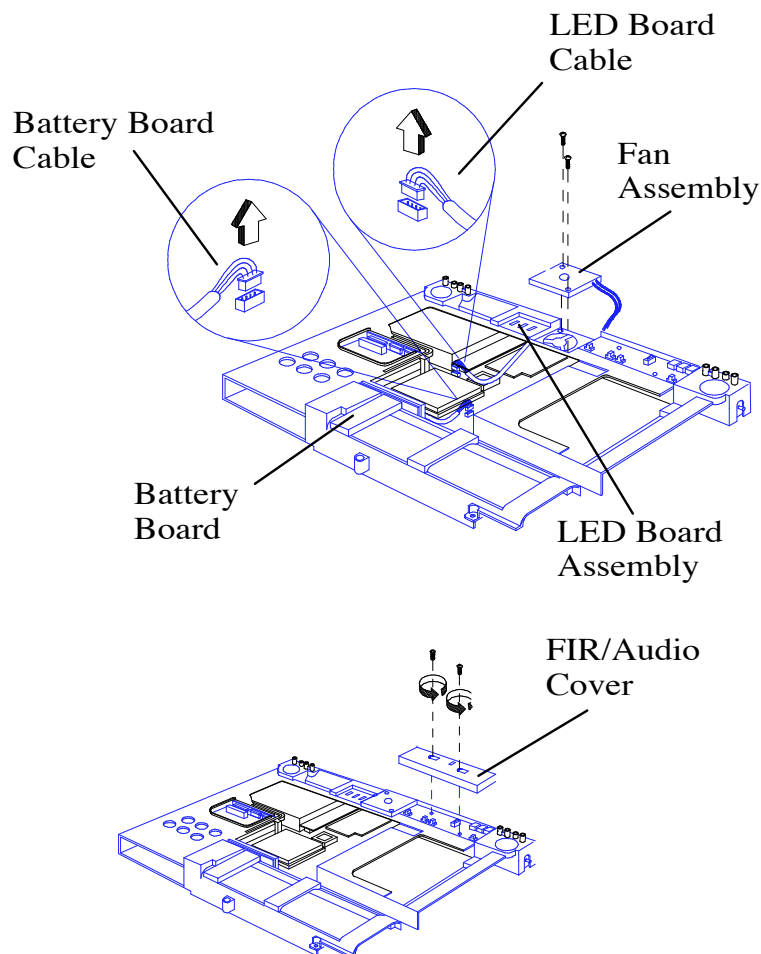

Figure 6-17 Internal PWB Assemblies, Removal/Replacement (65x Series)
2. Disconnect the LED cable from the Main Board (refer to Figure 6-17).
2. Disconnect the Battery Board Cable from the Main Board (refer to Figure 6-17).